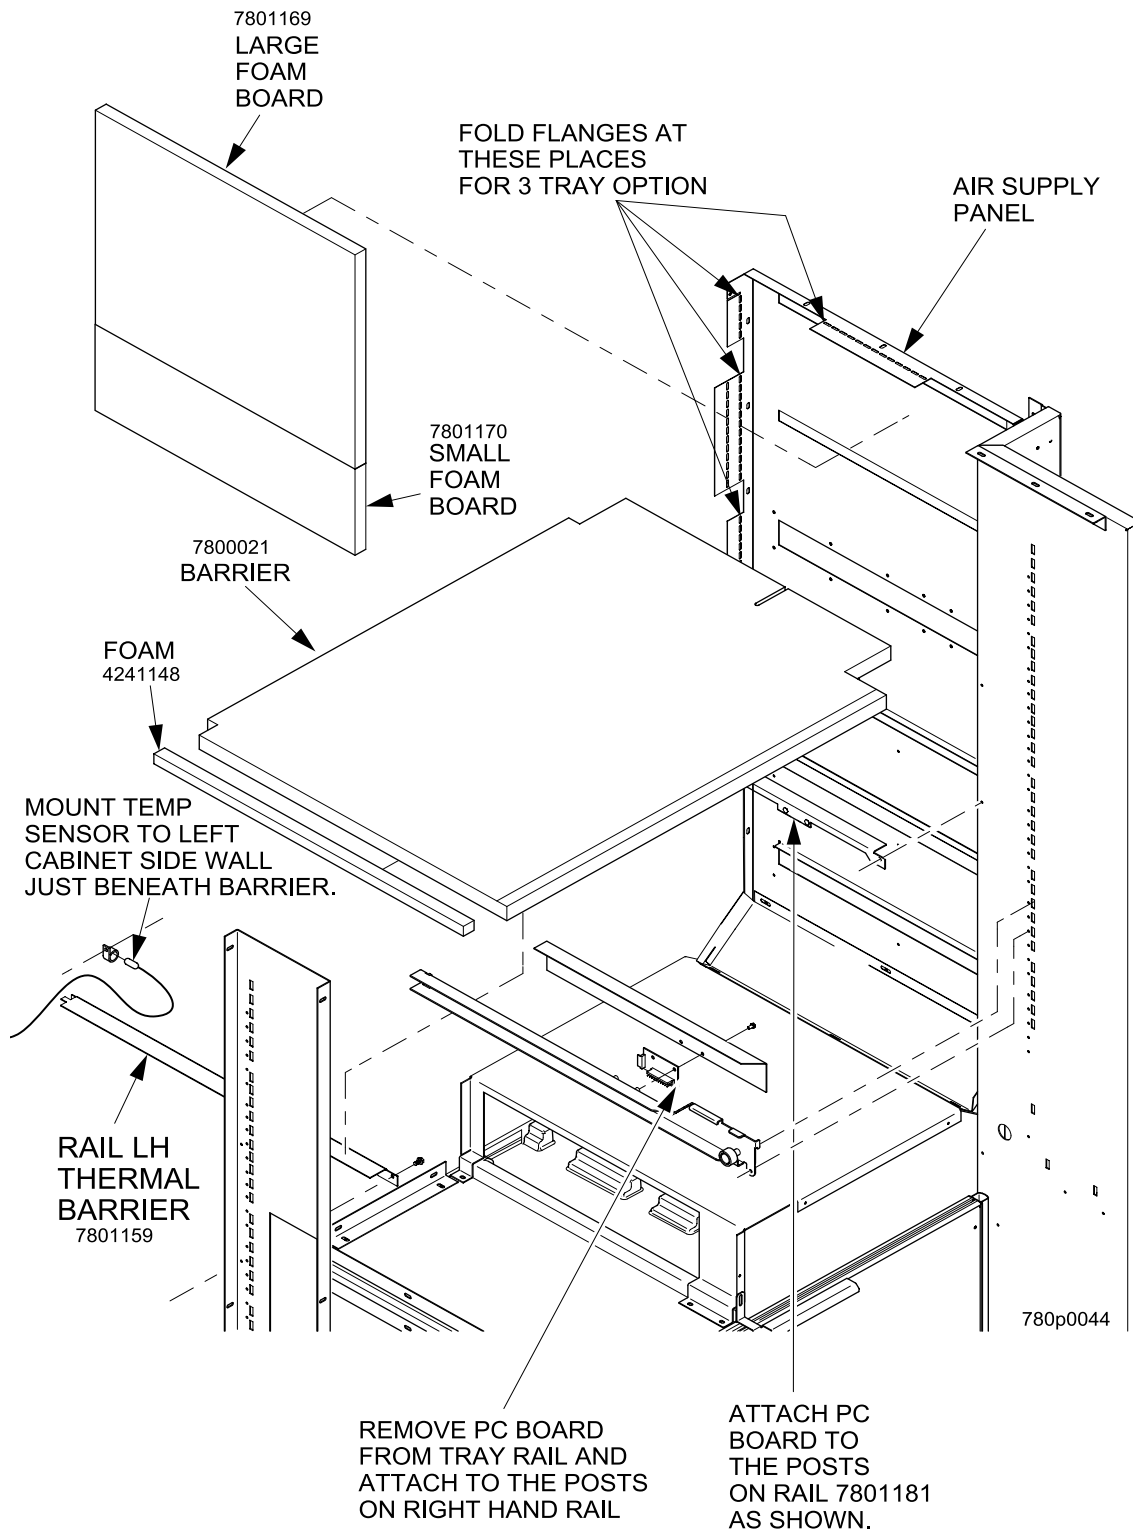

Figure 2 Three tray configuration
(REFER TO FIGURE 2)
6. Mount the tray rail board to the right side of the barriers mounting rail standoffs part #7801181 (see figure 2).
9. As you are holding divider shelf assembly up in the cabinet, mount the left and right rails part #7801159 and part #7801181 to the sides of the machine using one screw for each rail (see figure 2). There should be holes already pre-drilled on the right-hand side of the cabinet for these rails.
11. Place the small foam board part #7801170 next to the large foam board. Make sure that the small board is underneath the large board as shown in figure 2.